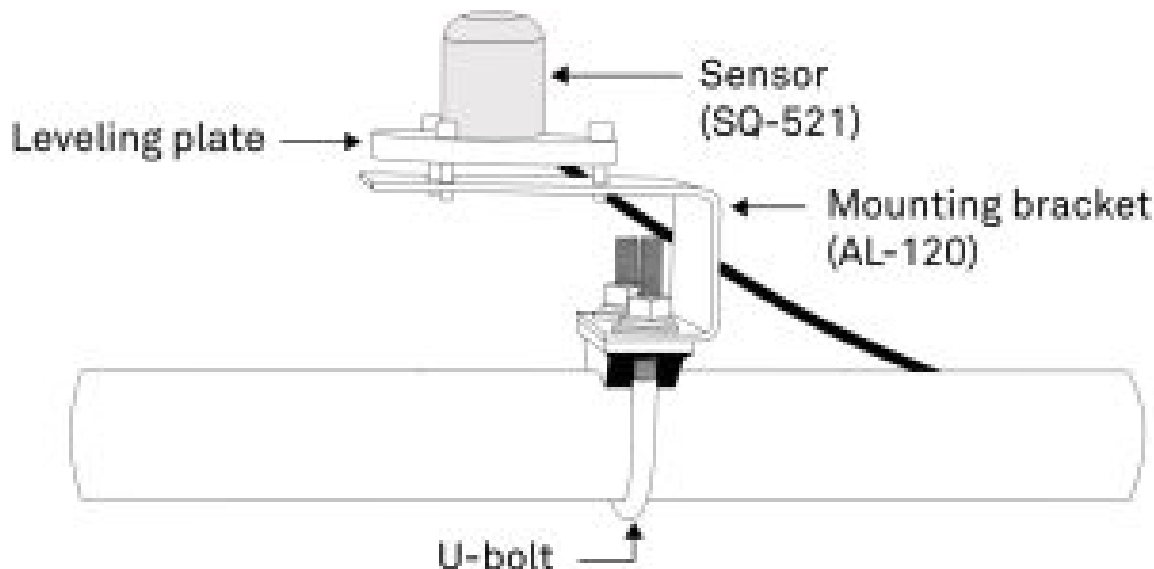

Figure 2 Apogee Quantum sensor mounting assembly
3. Mount the sensor to the leveling plate (**Figure 2**) with the included nylon screw.
5. Attach the mounting bracket either to a horizontal arm (**Figure 2**) or vertical post using the included U-bolt.